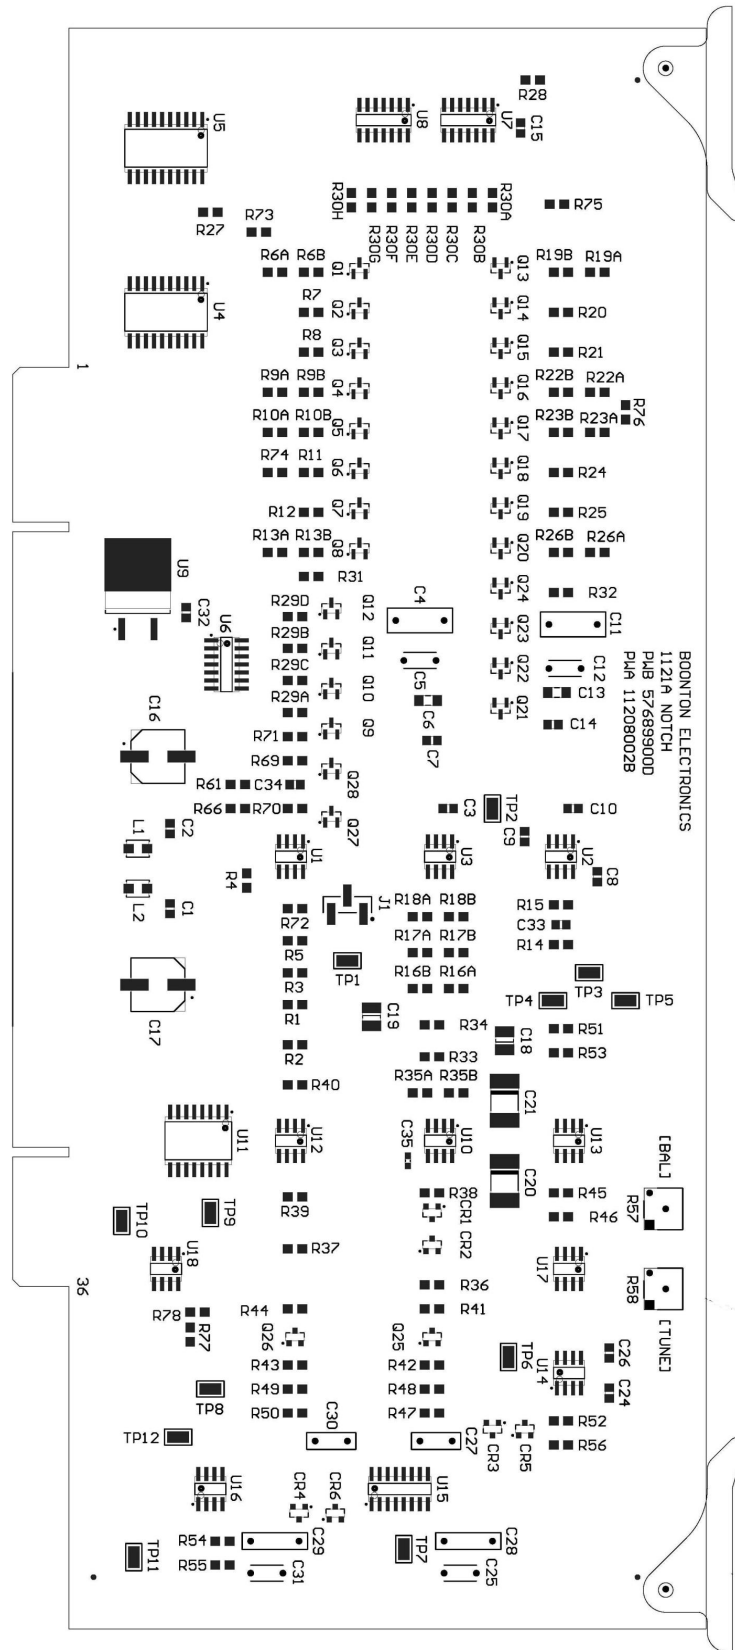

Figure 6-5. PWA '1121A' Notch (A2)
**11208002A PWA NOTCH 1121A (A2) (Figure 6-5)